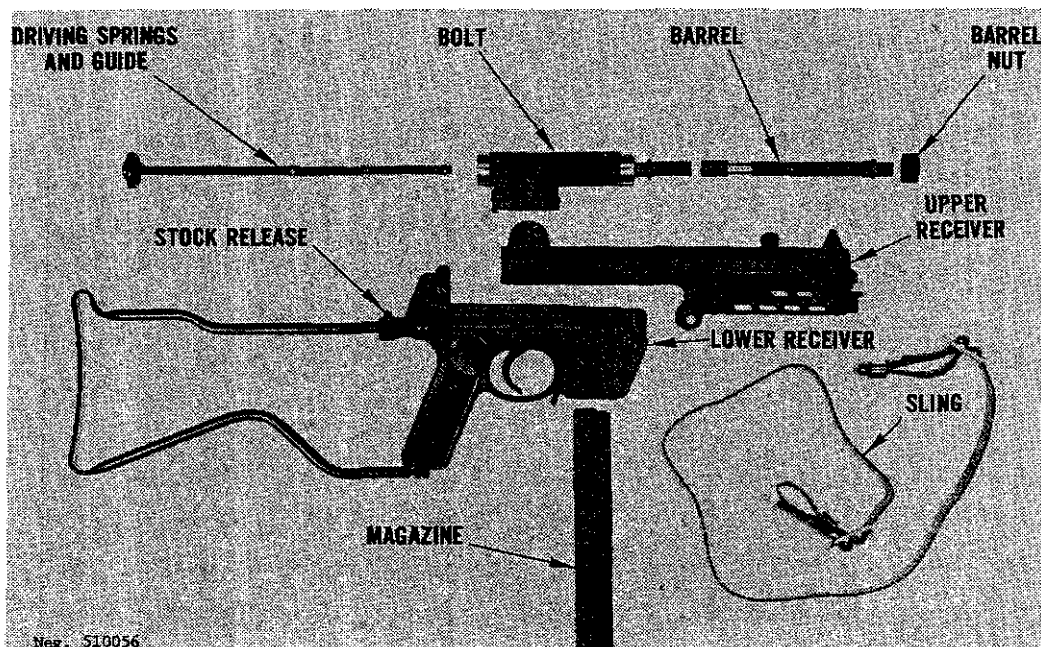

Figure 57. Walther MP-K disassembled.
c. Depress the barrel nut lock and unscrew the barrel nut (fig 57) and pull the barrel forward, out of the upper receiver. Further disassembly is neither required nor desirable.
d. To reassemble, insert the barrel into the upper receiver, insuring that the semicircular flange on the barrel is seated into its recess in the front end of the upper receiver. Screw the barrel nut on, finger tight. It is not necessary to depress the barrel nut lock. Insert the driving spring assembly into the large opening in the back of the bolt and press it into the bolt until the lock on the front of the driving spring guide (fig 57) snaps into place.
e. Insert the bolt into the upper receiver with the small diameter portion leading (fig 57). Hold the upper receiver at a slight angle to the lower receiver and insert the rear end of the upper receiver and the driving spring into the ring in the lower receiver (fig 57). Force the upper receiver to the rear until it can be fully seated into the lower receiver. Press the takedown pin back into place.